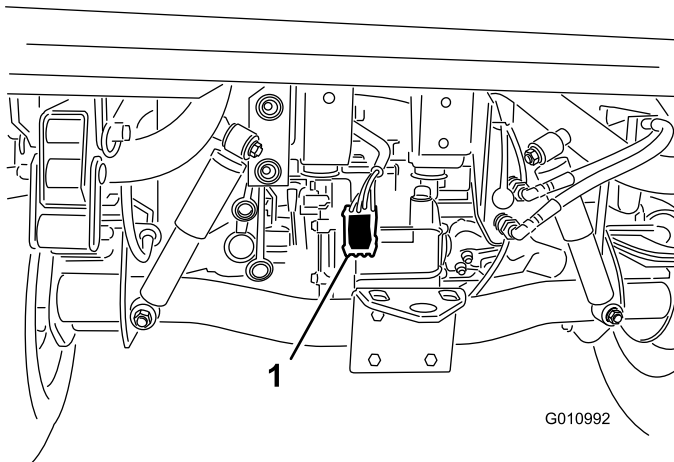

Figure 7
4. Route the wiring harness alongside the main vehicle wiring harness to the rear of the vehicle (Figure 7).